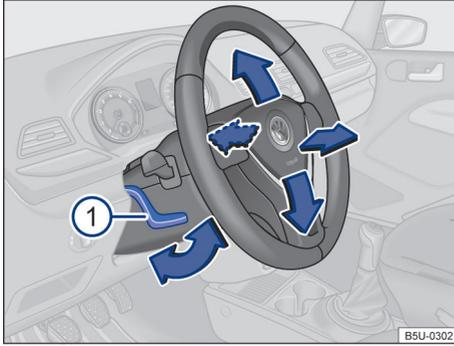

Fig. 55 Below and to the left of the steering wheel next to the steering column trim: steering wheel position adjustment lever.
- Push the lever → Fig. 55 ① downwards and adjust the steering wheel to the desired position.